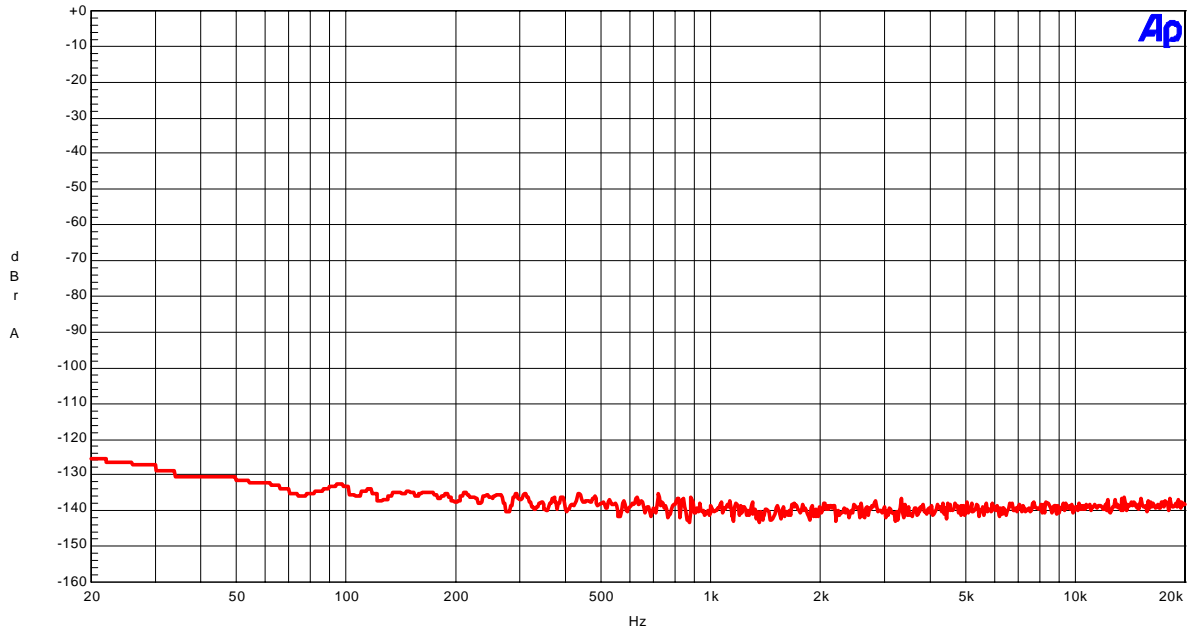

Figure 8 . FFT (noise floor)
- Figure 8 . FFT (noise floor)